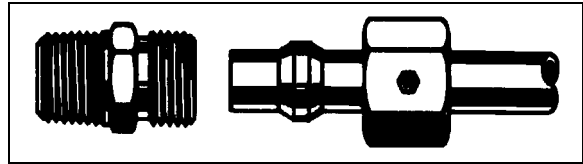

FIGURE 24: HOSE FITTING 12054
**2. Compression:** Tighten nut hand tight. From that point, tighten with a wrench the number of turns indicated in the chart hereafter (Fig. 24).